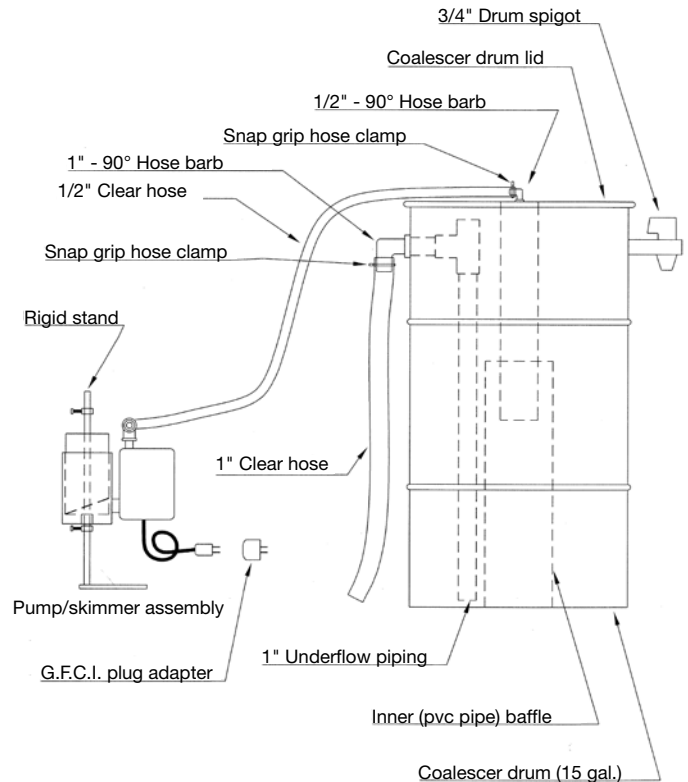

FIGURE 1
1. Connect one end of the 1/2" hose to the hose barb on top of the coalescer drum and attach the other end to the hose barb on the pump/skimmer assembly. Use the snap grip hose clamp (supplied) to make positive seal connections on both ends. (See **Figure 1** for further clarification.) **DO NOT CUT THE HOSE SHORTER. IF THE HOSE IS CUT SHORTER, IT WILL INCREASE THE COOLANT FLOW THROUGH THE SKIMMER AND PUMP, WHICH WILL IN TURN NOT ALLOW THE SKIMMER TOP TO FLOAT PROPERLY.**